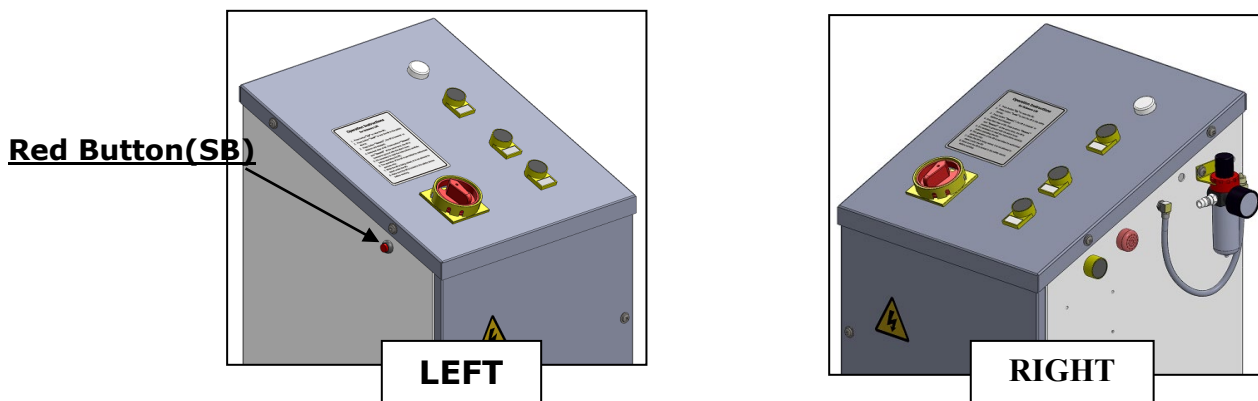

Fig. 43
- Turn the handles of the shutoff valves to the position as **Fig. 44** (Normal working position), push button **"UP"** until both platforms up to the position that the high limit switch and stopped, at this time, push button **"UP"** and the red button beside the oil water separator at the same time to raise the lift to the highest position (**See Fig.43**).
- Press button **"UP"** and the Red Button beside the oil-water separator as **Fig. 43** to fill the oil into both secondly cylinders until it is full (to the highest position).